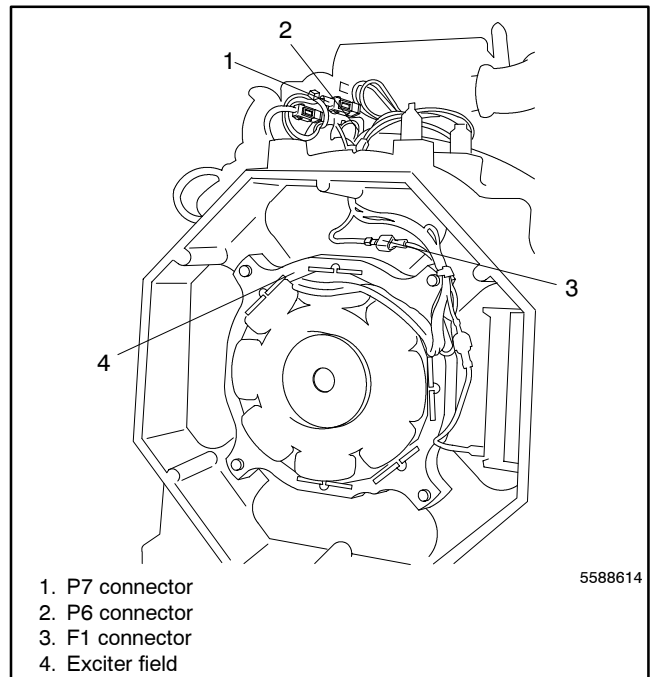

Figure 9-11 Installing Exciter Field
10. Install the exciter field using four bolts and washers. The field leads are at the top. Connect the P6, P7, and F1 connectors. See Figure 9-11.